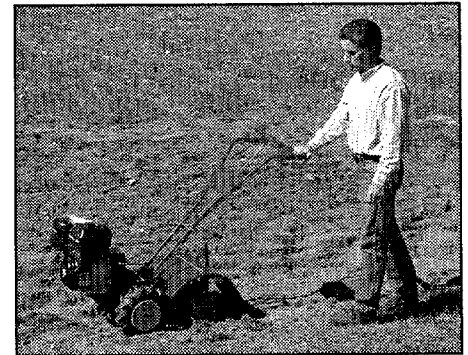

Figure 4-2: Use one hand to guide tiller when moving forward.
- (b) As the tiller moves forward, relax and let the wheels pull the unit along while the tines dig. Walk behind and a little to one side of the tiller. Use a light but secure grip with one hand on the handlebars, but keep your arm loose. See Figure 4-2. Let the tiller move ahead at its own pace and do not push down on the handlebars to try and force the tiller to dig deeper – this takes weight off the wheels, reduces traction, and causes the tines to try and propel the tiller.
- While tilling, relax and let the wheels pull the tiller along while the tines do the digging. Walk on the side that is not yet finished (to avoid making footprints in the freshly tilled soil) and lightly, but securely grip the handlebar with just one hand. See Figure 4-2.